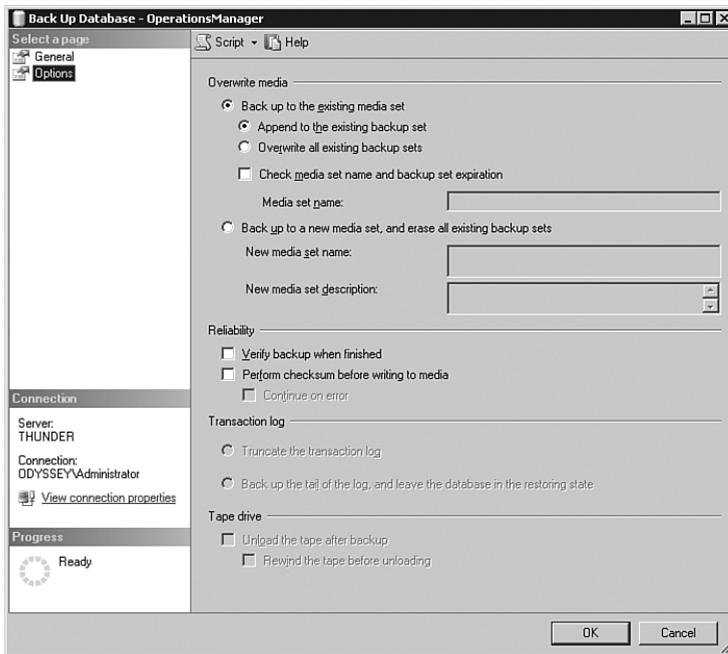

FIGURE 12.7 The backup options page.
5. After specifying the general requirements for the backup, it is time to move to the Options page shown in Figure 12.7. You must decide whether you will overwrite the file (backup set). By default, SQL Server appends the current backup to the end of the backup file if it already exists. Alternatively, you can overwrite (replace) the file. The option to truncate the transaction log is grayed out because the SQL Management Studio will not let you truncate the log when the database recovery type is defined as simple. If you want to truncate the log, you will have to add a step to do this manually.
6. Selecting the Script option at the top of Figure 12.7 generates Transact SQL code you can use to schedule the backup rather than having to return to SQL Management Studio each time you want to back up the database. (After the script is generated, the progress status shows that scripting completed successfully.)